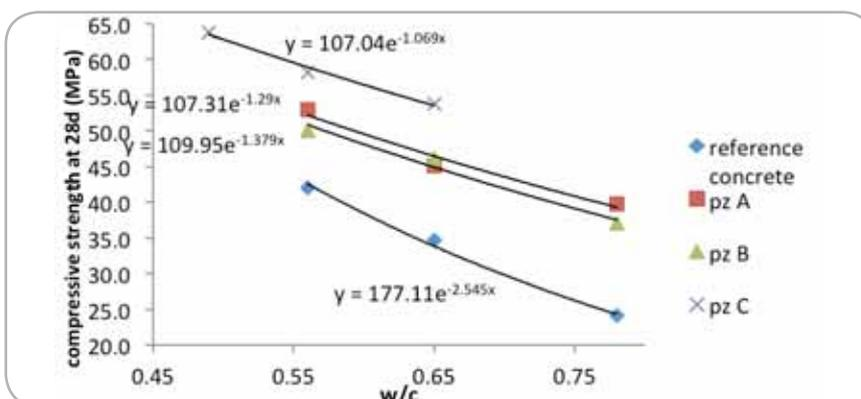

Fig. 1 : Concrete compressive strength (measured at 28 days from cast) as function of the water to cement ratio: experimental regressions.
ment ratio resulted, and the concrete compressive strength after 7, 28, 60 and 90 days were recorded. Figure 1 shows the variation in compressive strength at the age of 28 days as result of increased water to cement ratios.
Step 4: Data from Table 2 are plotted in terms of compressive strength values vs. the water to cement ratios, so determining an experimental law (exponential type  $R_c = a * e^{b * (w/c)}$ ) for each of the three compounds. Data in Figure 1 refers to compressive strength values measured at the age of 28 days from the cast. Similar plots are obtained when strength values at different ages are considered.
Table 3 Coefficients a and b of the experimental regressions (exponential lows type  $R_c = a * e^{b * (w/c)}$ ): data shown in Fig. 1 are marked in bold style.
Step 5: Numerical coefficient a and b of the regressions lows plotted as in Step 4 are recorded. Table 3 resumes the coefficients of all the regression, referring to any different series of concrete mixtures at any different age of tests. Concerning compressive strength values at the age of 28 days, coefficient a and b are listed in Table 3 as they are readable from Fig. 1.